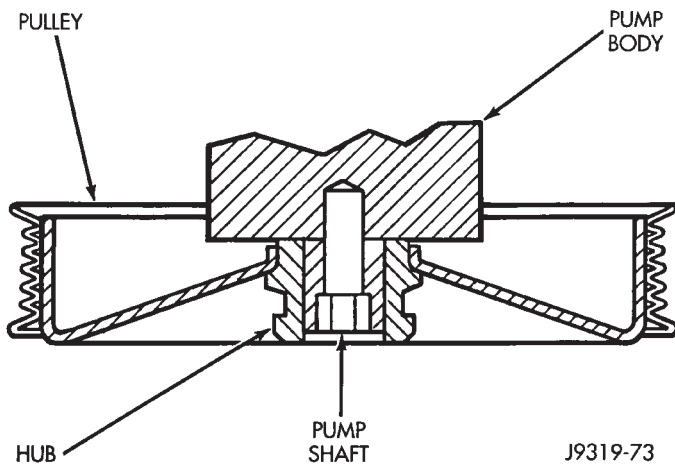

Fig. 6 Pump Shaft Location
- (2) Be sure tool and pulley remain aligned and NOT cocked with the pump shaft.
- (3) Press the pulley flush with the end of the pump shaft (Fig. 6).
- (4) Install power steering pump. Refer to Pump Replacement in this section.